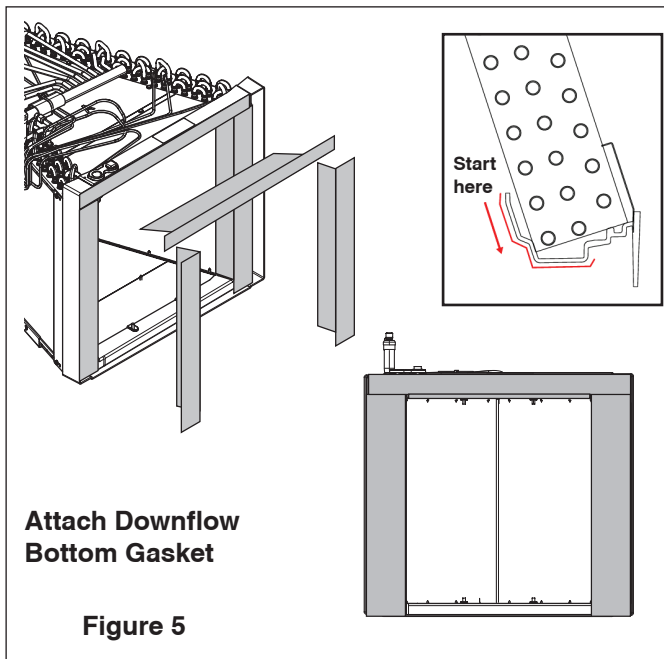

Figure 5
- c. Attach the 4" gasket material to three sides of the bottom of the drain pan as shown in Figure 5. Make sure to start by matching up the edge of the gasket material to the inner edge of the drain pan by the coil fins and working outwards.
- d. The gasket material can be cut or ripped easily so that it can be tailored to fit. The gasket material must cover the three sides along the entire length of the coil as shown in Figure 5.